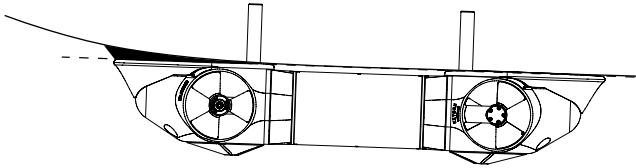

Fig. 32: EX series Dual mounting surface
- The mounting surface for the EX series Dual must be in-plane, if necessary a socket has to be developed accordingly (Fig. 32).